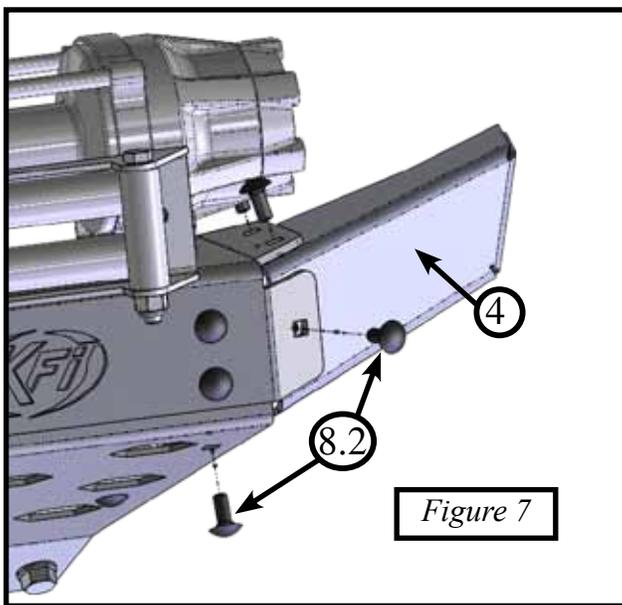

Figure 7
- Next install RH and LH wings using four 5/16" bolts and nuts (8.2 & 8.3) per side. Figures 7 and 8